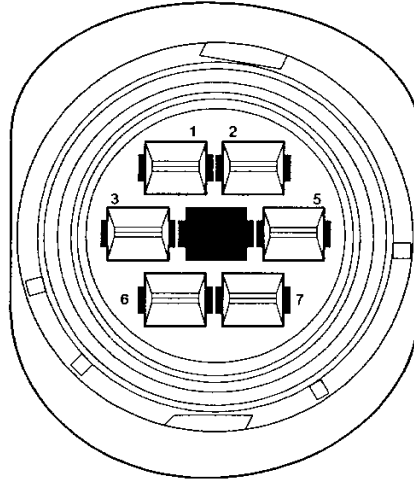

Figure 2-2 Front Panel POWER IN Connector
5. Connect external ALARM interface to external summary board. Refer to Figure 2-2 for pin locations and Table 2-4 for pin designation.